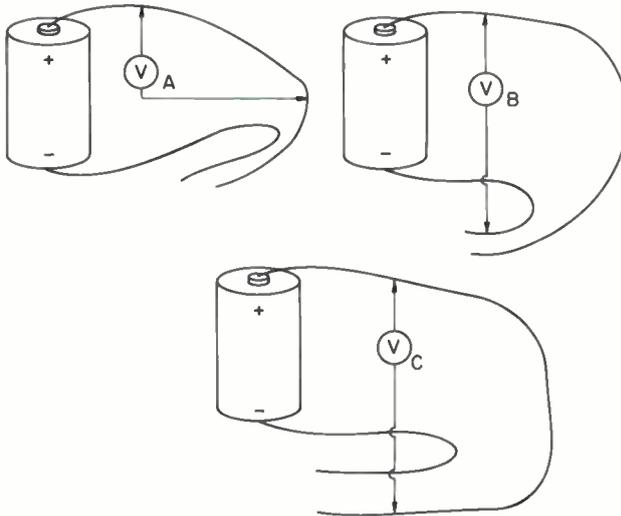

Fig. 6
- In Fig. 6, which voltmeter—A, **(B)** or C—will read battery voltage?
*You may find the figure 6,280,000,000 billion given in some books. Recent measurements show 6,240,000,000 billion to be more accurate, however.